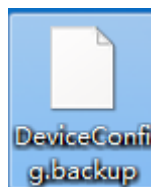

Figure 13-3
3) Go to the path you choose, you can find the Config backup file as Figure 13-3.